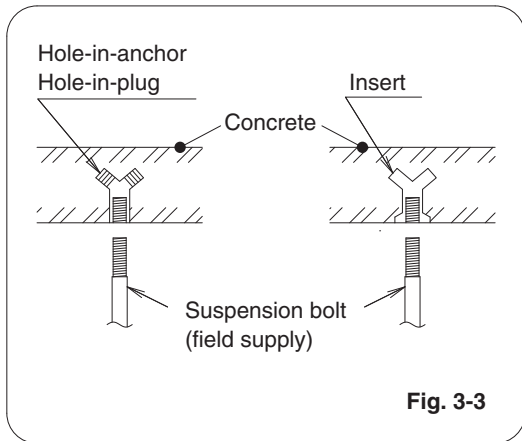

Fig. 3-3
- (1) When placing the unit inside the ceiling, determine the pitch of the suspension bolts referring to the dimensional data given previously. Tubing must be laid and connected inside the ceiling when suspending the unit. If the ceiling is already constructed, lay the tubing into position for connection to the unit before placing the unit inside the ceiling.
- (2) Screw in the suspension bolts allowing them to protrude from the ceiling as shown in Fig. 3-3. (Cut the ceiling material, if necessary.)